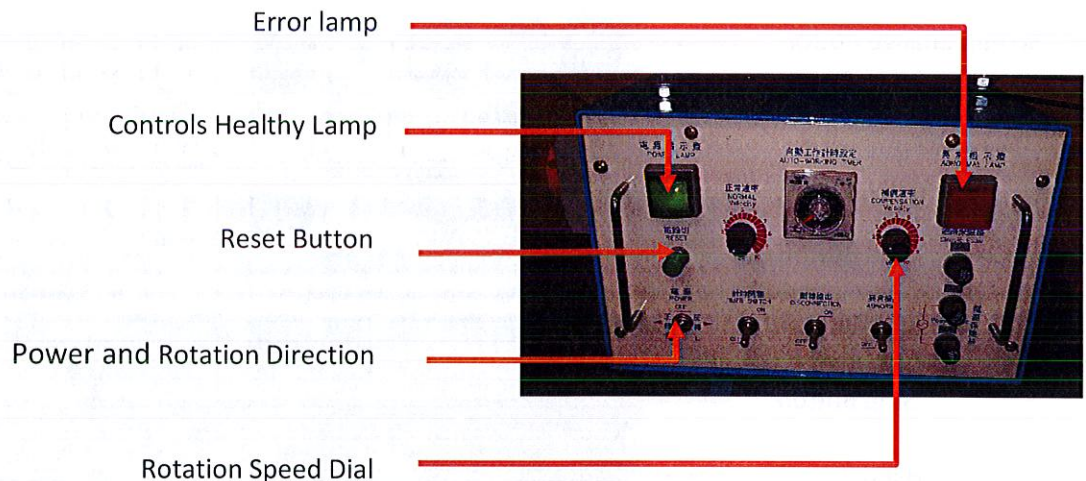

Figure 2: Decoiler Control Panel
6.1. Start De Coiler. Figure 2 shows the Decoiler control panel (DCP) and a description of the commonly used controls.